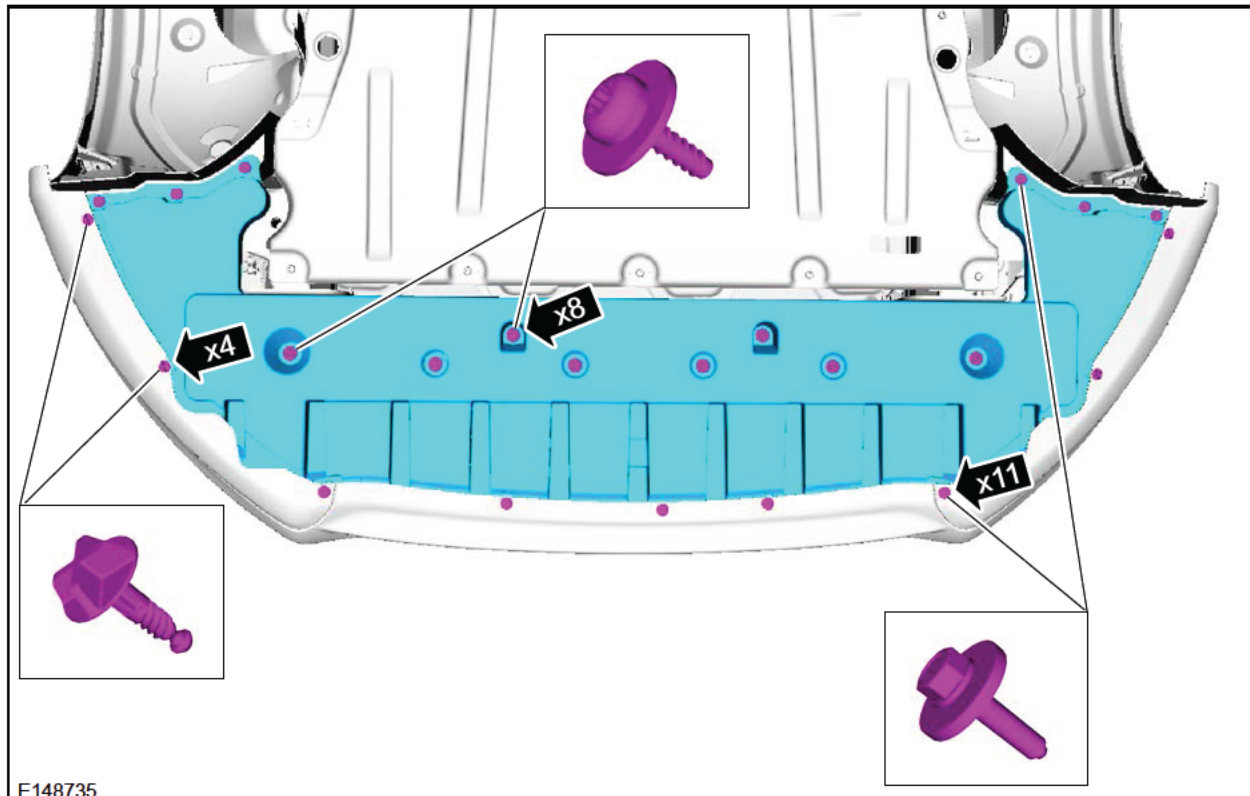

FIGURE A4
11. Remove the retainers and the front underbody air deflectors. See Figures A4 and A5.